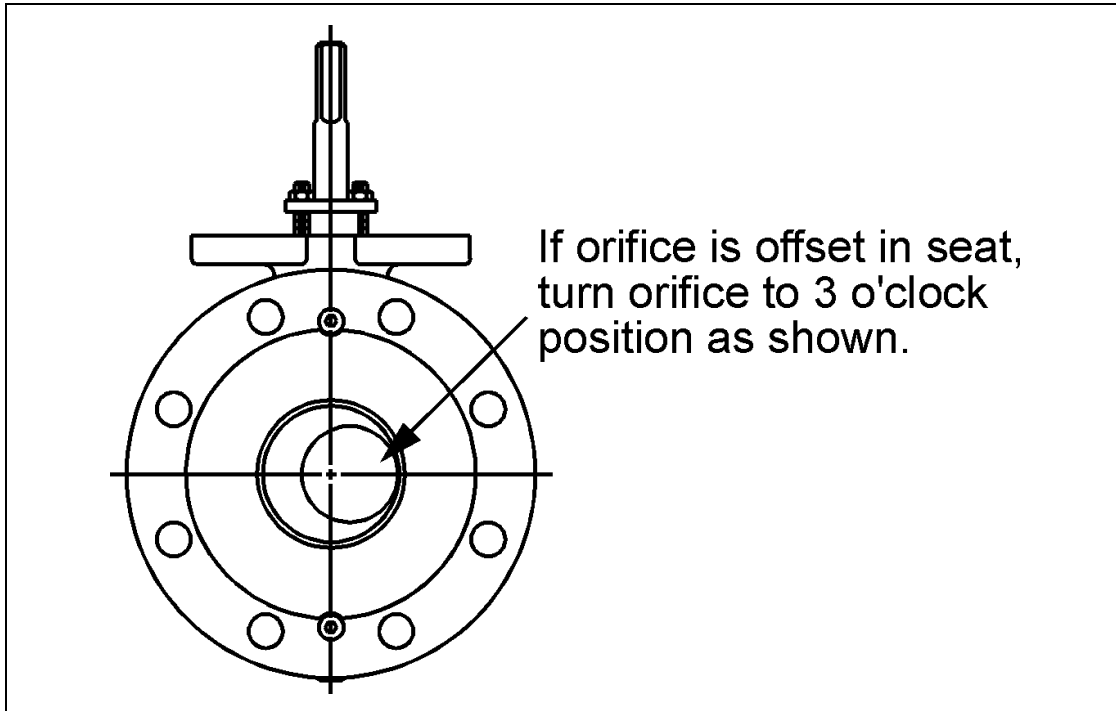

Figure 3 – Correct Position of Plug With Offset Orifice
8. Place the seat (A16) into the valve body with the beveled side of the seat toward the plug. If a reduced trim seat with offset orifice is being installed, position the orifice in the 3 o'clock position as shown in Figure 3.